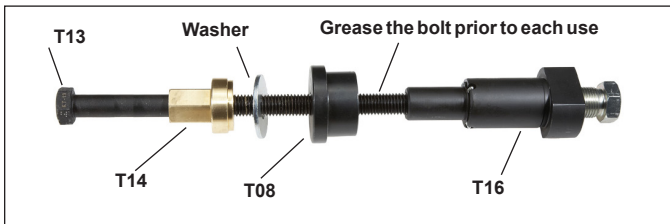

Figure 76 – Long Guide Pin Bushing Installation and Dimpling Tool
4.6.19 Place the washer and thread the brass nut (T14) on to the bolt (T13) followed by the flange (T08). See Figure 76.